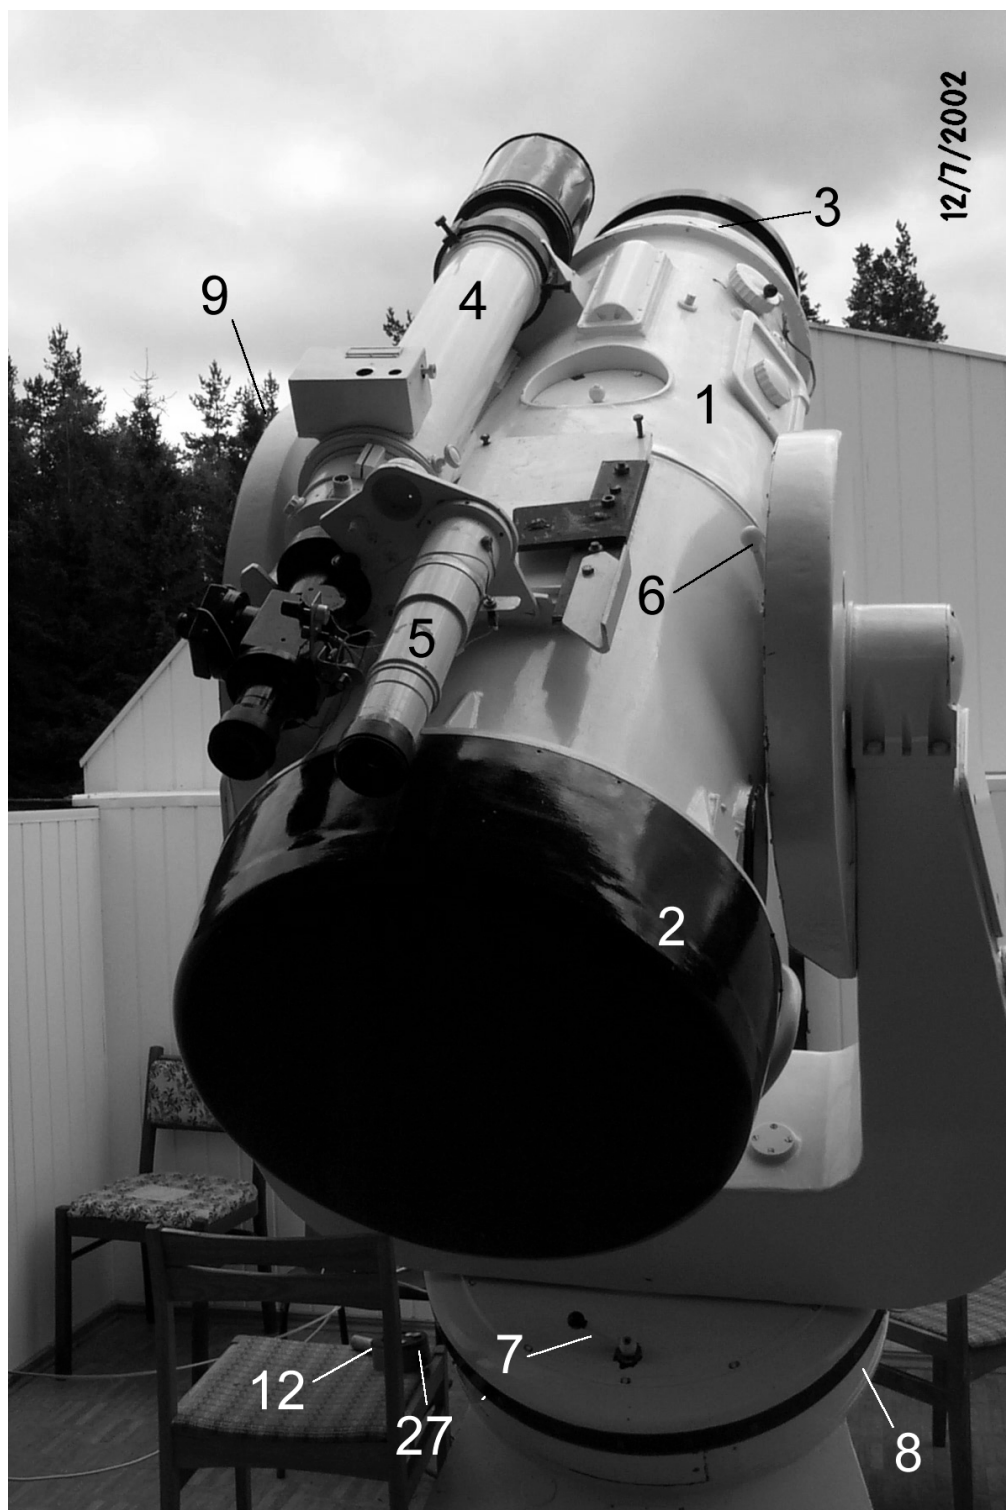

Fig. 3. General view of the telescope ACT-452:
3. Telescope pointing manually to the target (Fig. 3):
3.1. Release the declination fixation. The handles are on the delta axis, between the telescope's tube (on the right side) and the delta axis gearwheel cover (6; Fig. 3). Standing on the mirror side of the telescope, push the upper handle 6 away, and, if needed, pull the lower one nearer to you. Set the required declination value on the limb
3.2. Calculate the hour angle of the object. (The difference between the sidereal time s and the right ascension α of the target: $t=s-\alpha$). Then release the hour axis of the telescope with the handle 7 (Fig.3), or with similar handle on the opposite side of the hour axis, and turn the telescope around the hour axis until the calculated value of the hour angle is reached. Fix the released handle of the hour axis.
10 – thumblers switch of the illumination of hour limb; 11 – hour angle limb (also 8 in the Fig. 3); 23 – thumblers for guiding speed adjustment; 24 – declination guiding buttons; 25 – right ascension guiding buttons